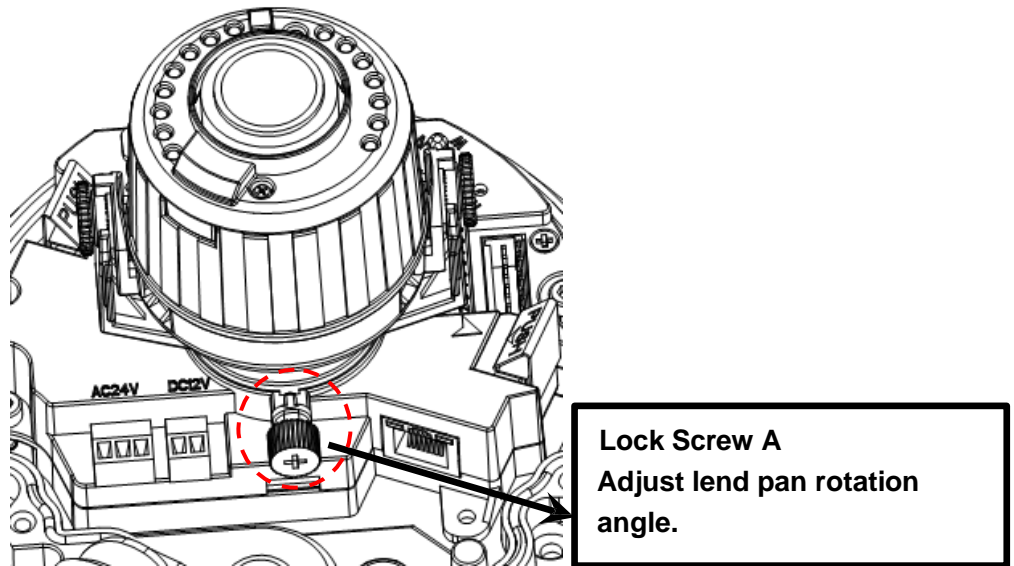
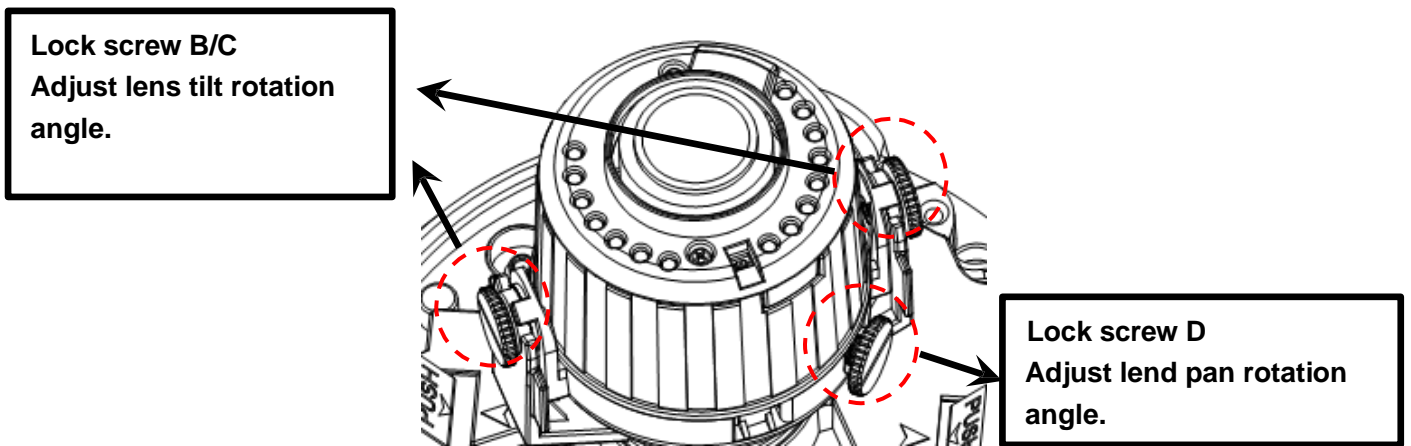

Figure 3-6
Figure 3-7
b) Lens pan rotation angle setup. Please refer to Figure 3-6 to unfasten the lock screw A and adjust the pan monitor angle to the proper position. Then fix the lock screw A. The pan angle ranges from 0°~+350°.
c). Lens tilt rotation angle. Please refer to Figure 3-7 to unfasten the lock screw B and lock screw C and adjust the tilt monitor angle to the proper position. Then fix the lock screw B and lock screw C. The tilt angle ranges from $-23^{\circ}\sim+73^{\circ}$.
d). Image pan rotation angle setup. Please refer to Figure 3-7 to turn lock screw D to adjust the video pan angle. Then fix the lock screw B and C. The video pan angle ranges from $0^{\circ}\sim+350^{\circ}$.
Please note Figure 3-6 and Figure 3-7 is based on the IR motorized zoom camera. For the IR manual zoom camera and non-IR series product, the lock screw position and the lens angle adjustment are the same.